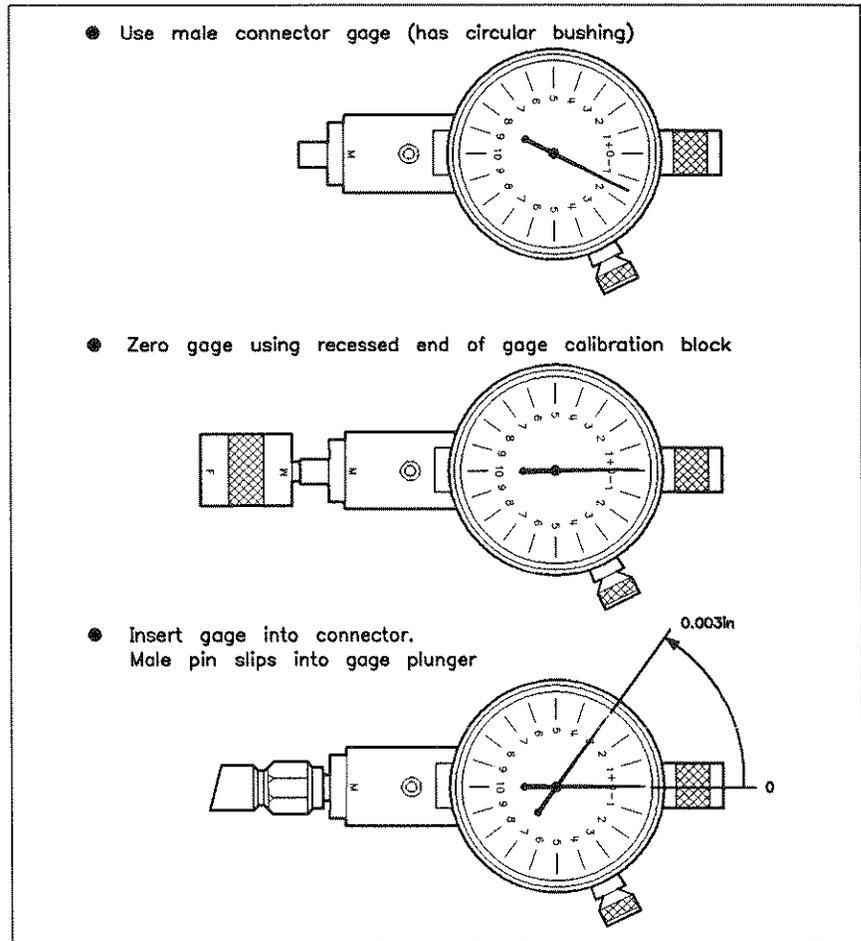

Figure 3-15.
1. Refer to Figure 3-15. The male 3.5 mm connector gage (usually marked M) has a circular metal bushing surrounding the gage plunger.